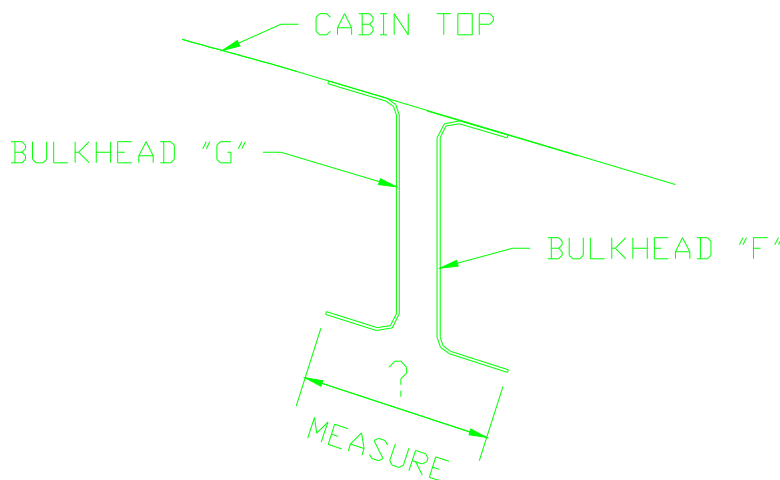

Figure 12.28.1
1) Measure the distance from the edge of one flange to the edge of the other. Figure 12.28.1.